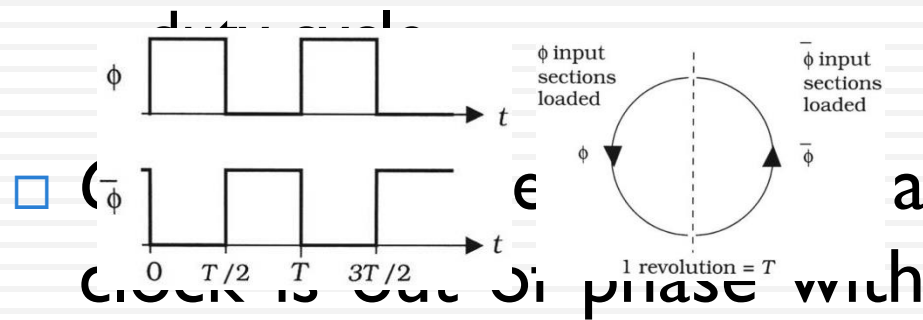

Figure 15.9 Timing circle for a single clock, dual-phase cascade
□ In Figure 15.9, this defines what is known as a 50% clock